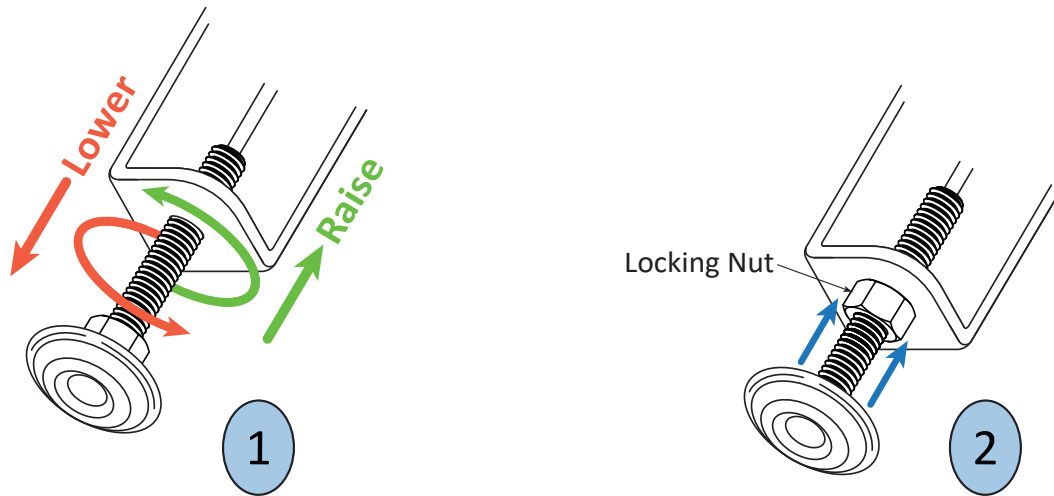

Figure 1-11. Adjusting the leg levelers.
13) Once you have the playfield at the proper front-to-back pitch, you need to level the game side-to-side. Place a torpedo bubble level directly onto the playfield surface, low, between the game's flippers, perpendicular to the cabinet side walls. Level the front end of the cabinet (see figure 1-11): ① Adjust the front leg levelers/nuts, accordingly, to center the bubble. Move the torpedo level as high up the playfield as possible, keeping it perpendicular to the cabinet side walls. ① Adjust the front leg levelers/nuts, accordingly, to center the bubble. Keep an eye on the playfield pitch bubble, to ensure that your adjustments are not affecting front-to-back pitch of the playfield. When finished, ② thread the locking nuts against the underside of all four legs, and tighten them firmly in place.